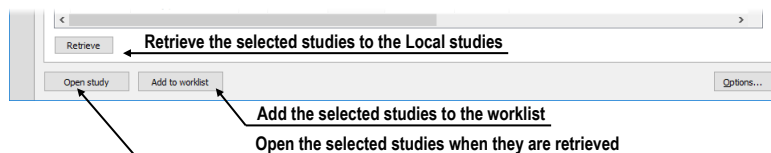

Figure 103 – The buttons for the operations with the selected studies
3. Select the study from the list and (see Figure 103):